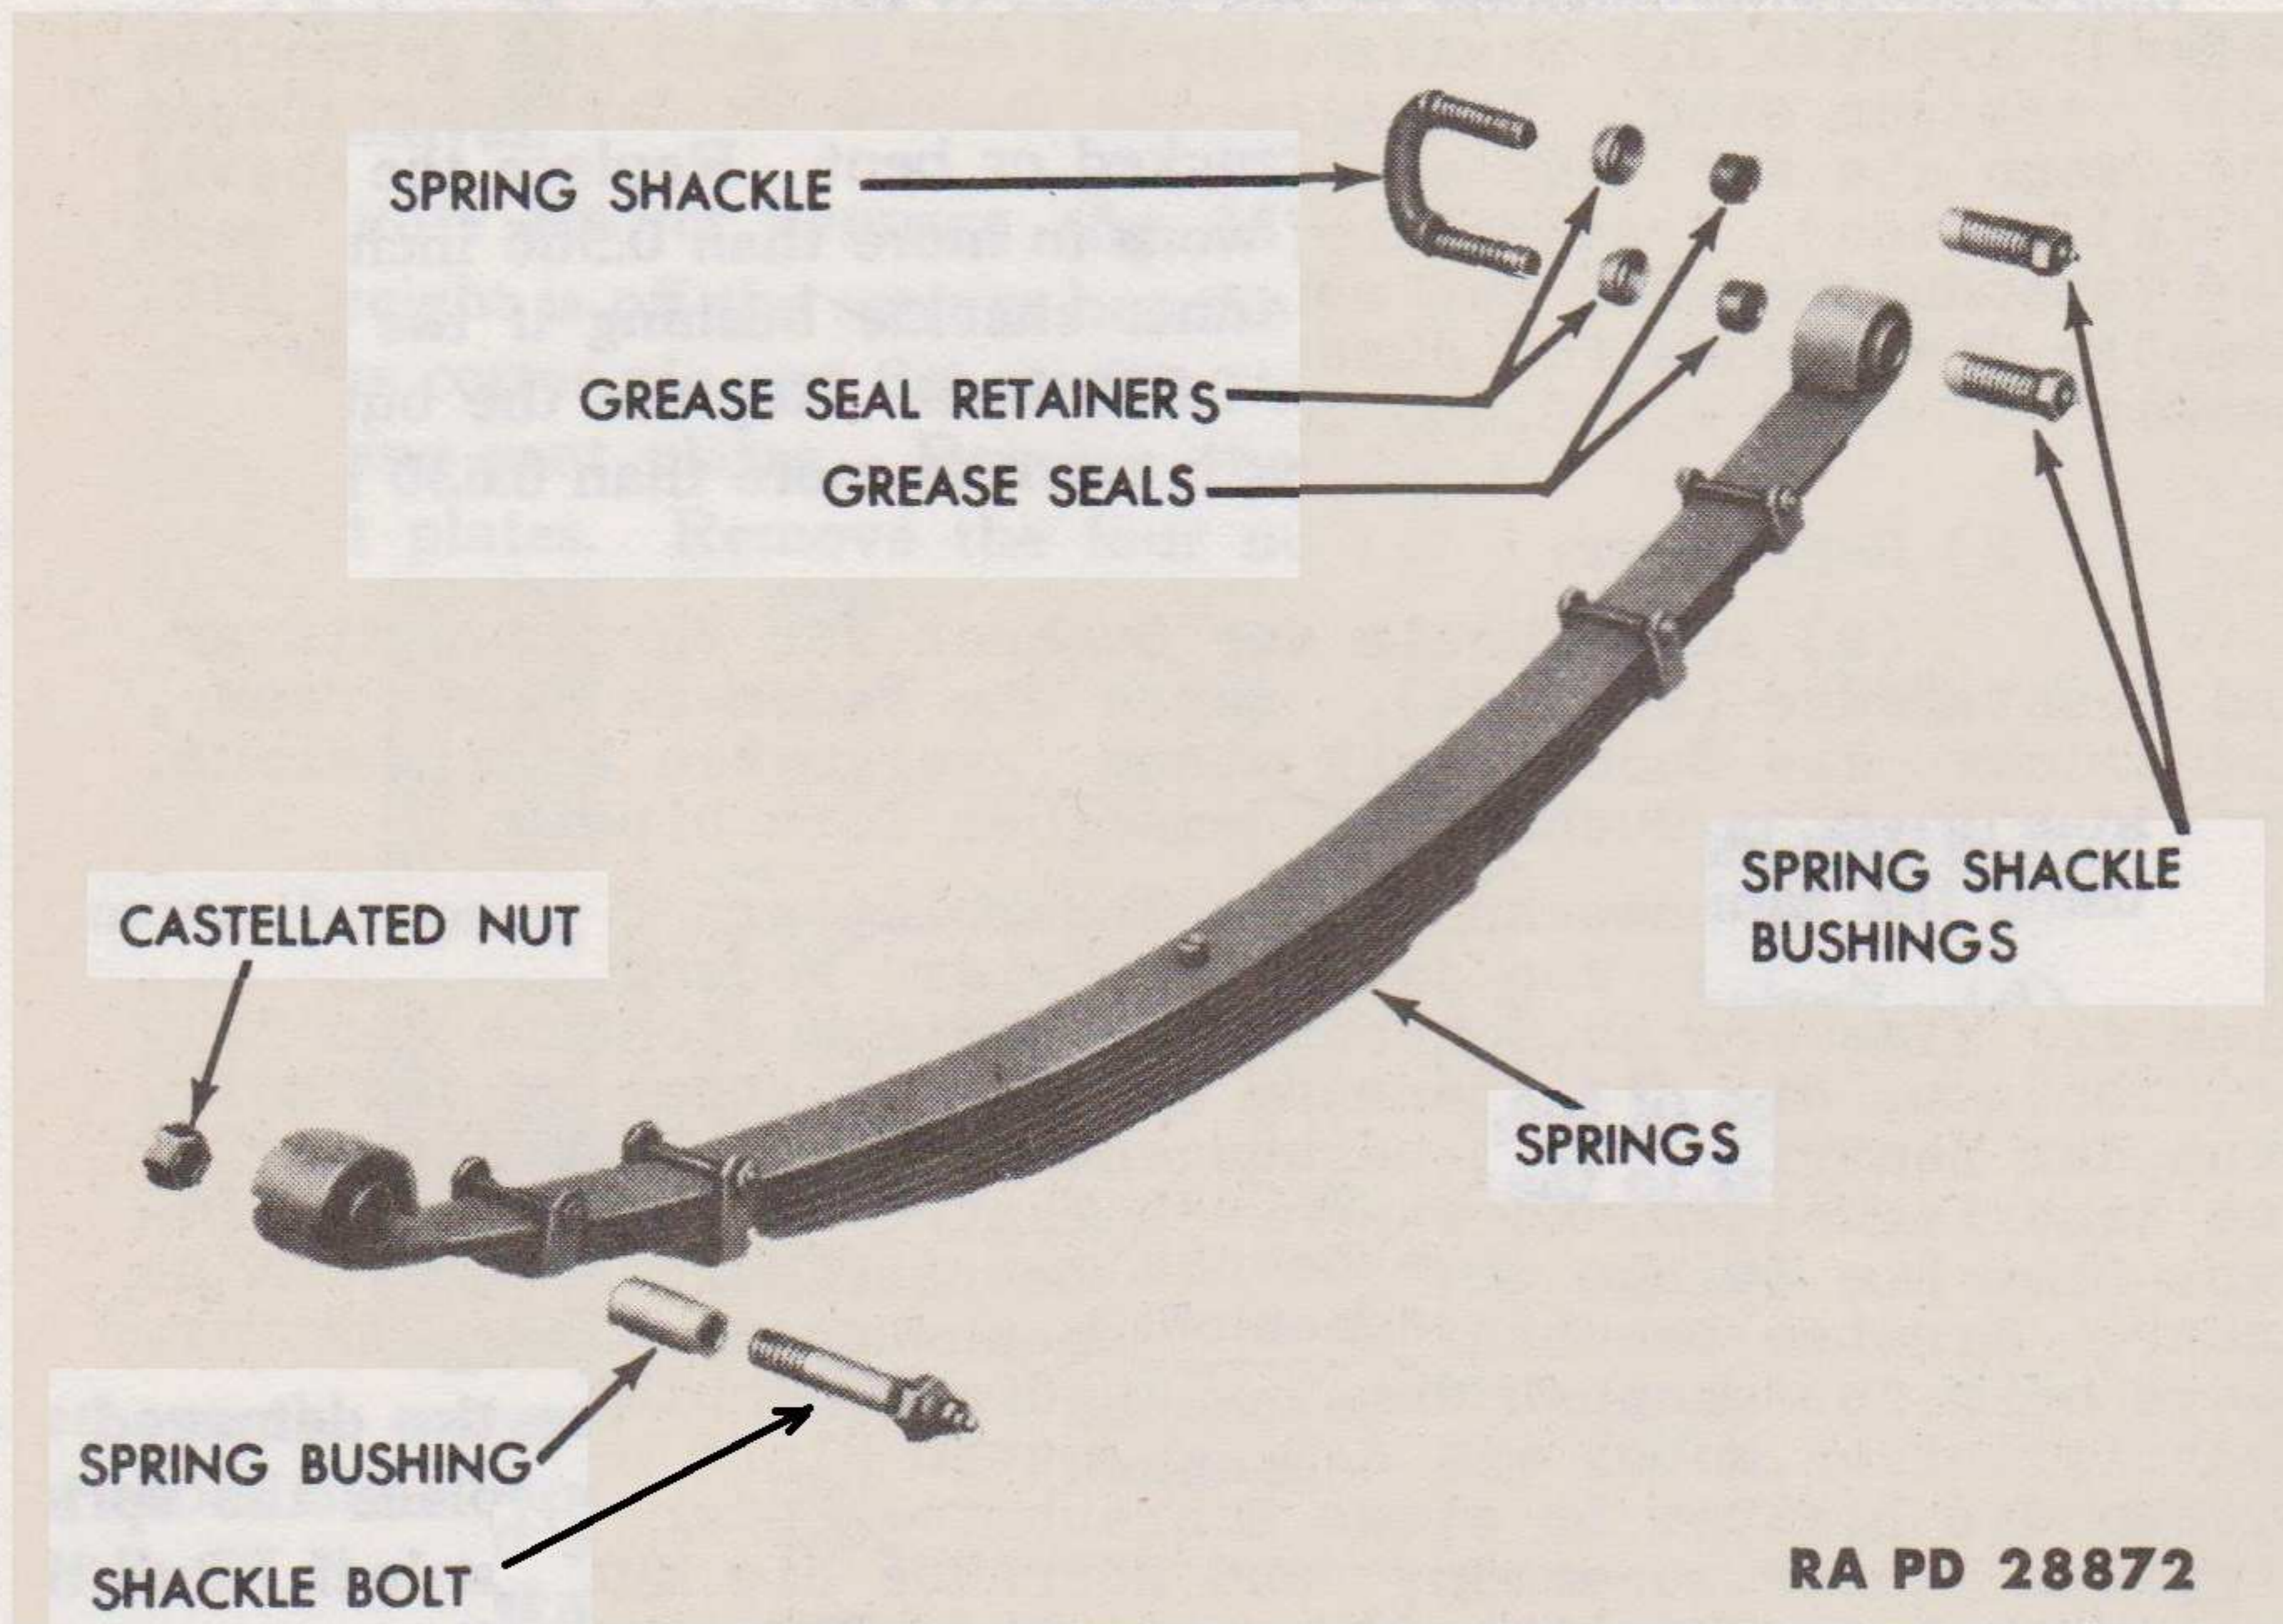

Figure 85 — Rear Spring and Shackles
(1) **CLEANING AND INSPECTION** (figs. 85 and 86). Clean all parts in dry-cleaning solvent. Replace spring leaves or spring clips that are cracked or bent (step (2) (b), below). Replace spring shackles or shackle bolts that are bent or excessively worn. Replace the shackle bolt if the diameter is worn to less than 0.055 inch. Replace the spring bushing in the spring if the inside diameter is worn to more than 0.565 inch (step (2) (a), below). Replace the torque reaction leaves if they are cracked or bent. Replace the bushing in the torque reaction spring if worn to more than 0.566 inch (step (2) (a), below). Replace the inner shackle bushing if the inside diameter is worn to more than 0.570 inch. Replace the outer shackle bushing if the inside diameter is worn to more than 0.630 inch.
(2) REPAIR.